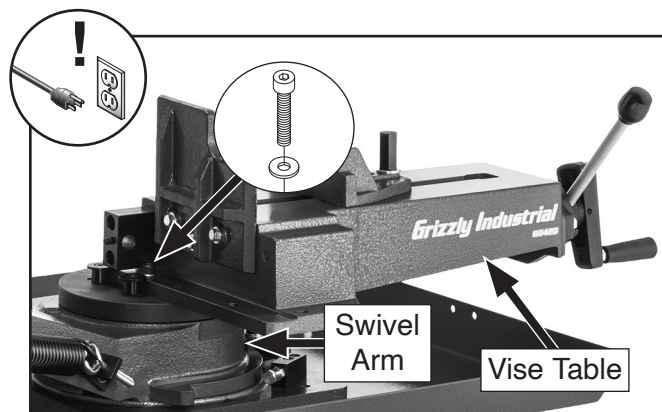

Figure 51. Location of cap screw holding vise table to swivel arm.
3. Remove cap screw and flat washer holding vise table to swivel arm (see **Figure 51**).